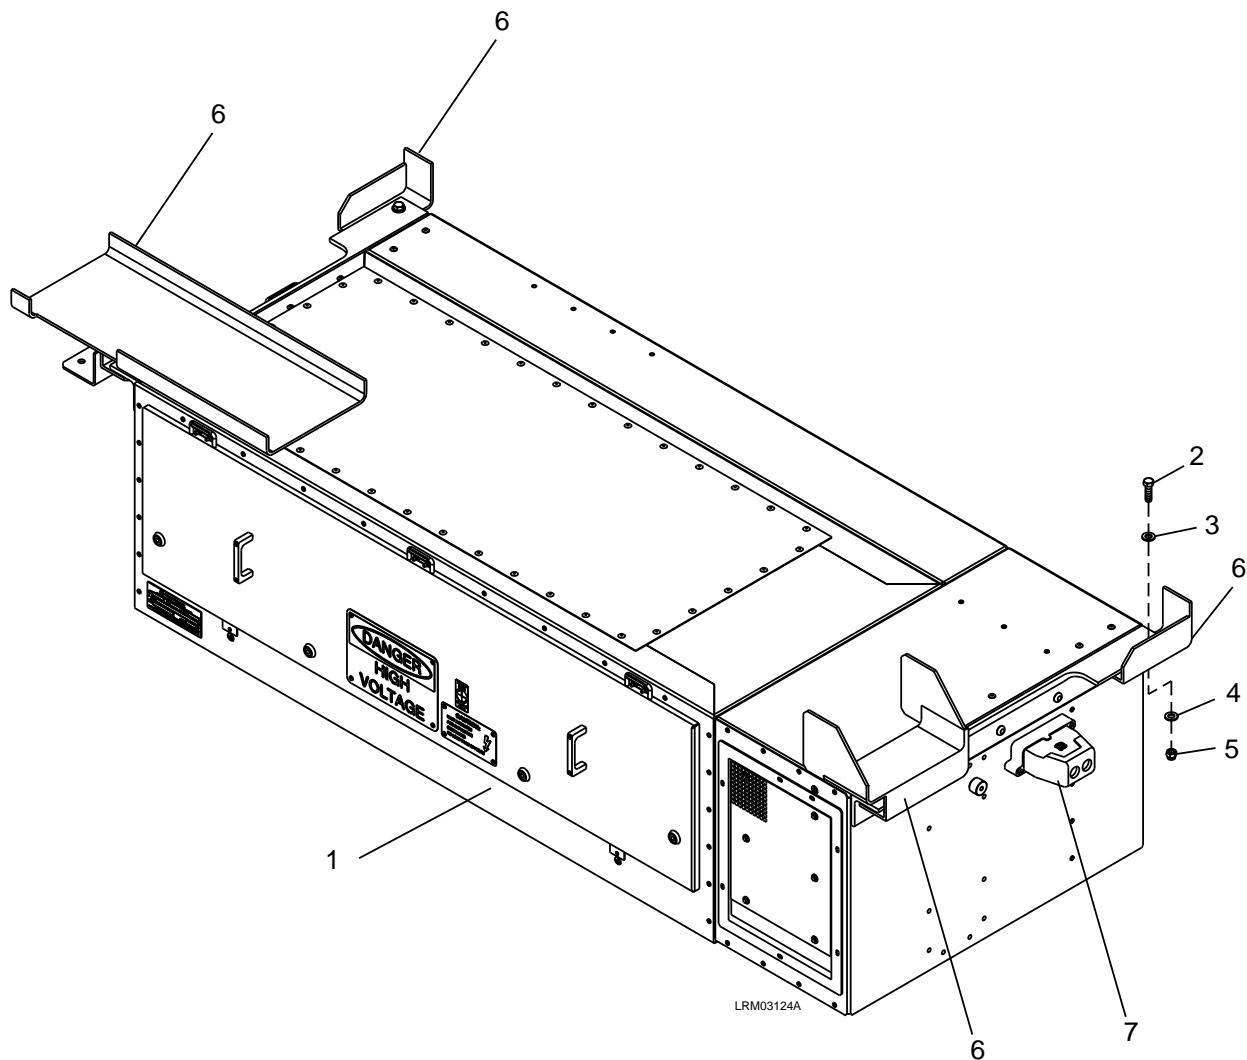

Figure 7-110: Auxiliary Power Supply
1. Disconnect the electrical connectors (7) to the Auxiliary Power Supply (1).
2. Remove the four M12 ESNA nuts (5) and M12 plain washers (4), M12 x 40 bolts (2), and M12 plain washers (3). See Figure 7-110.
3. Carefully remove the Auxiliary Power Supply (1) from the mounting brackets (6). Refer to Section 0900, Auxiliary Inverter of the Heavy Repair Maintenance Manual for additional information.